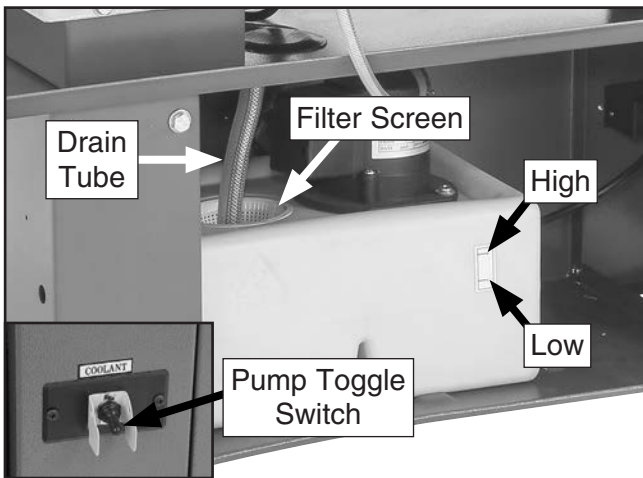

Figure 61. Identification of coolant components.
2. Place filter screen and drain tube in reservoir, as shown in **Figure 61**.